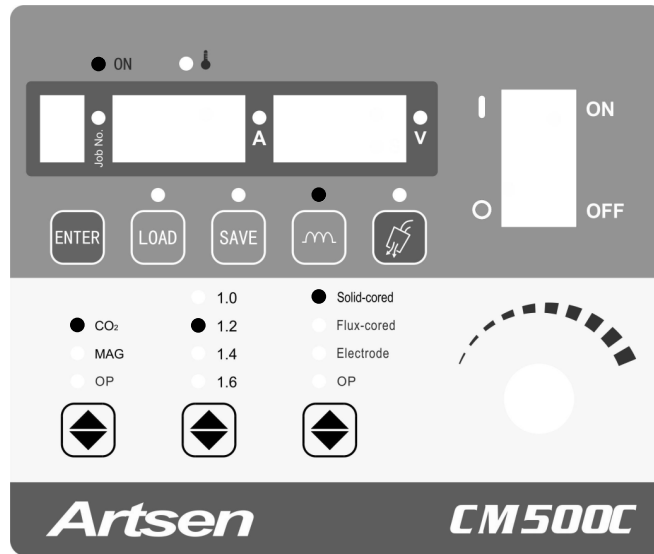

Figure 3-14 Setting arc dynamic
3. Figure 3-14 shows the control panel where the parameters have been set.